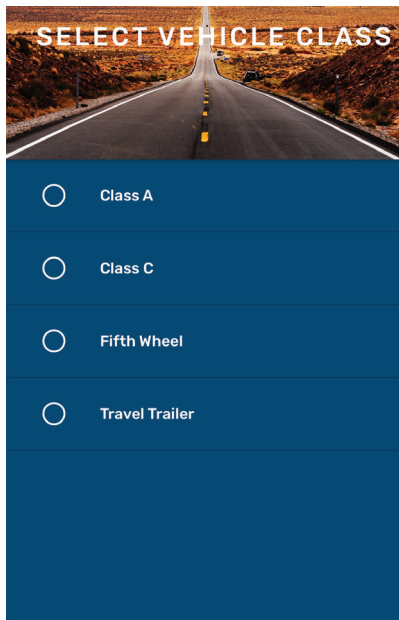

Fig.7
7. Select a vehicle class (**Fig.7**) and press continue.